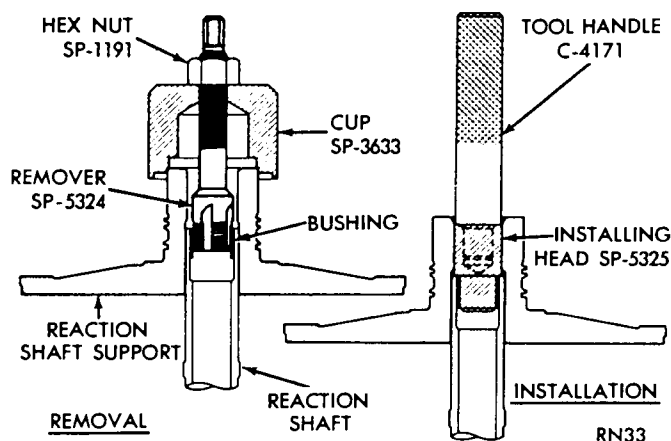

Fig. 12—Replace Reaction Shaft Bushing (A-904T and A-999)
(1) Assemble the remover Tool SP-5324, cup Tool SP-3633, and hex-nut Tool SP-1191 (Fig. 12).
(2) With cup held firmly against reaction shaft, thread remover into bushing as far as possible by hand.
(3) Using a wrench, screw remover into bushing 3 to 4 additional turns to firmly engage threads in the bushing.
(4) Turn hex nut down against cup to pull bushing from reaction shaft. Thoroughly clean reaction shaft to remove chips made by remover threads.
(5) Lightly grip bushing in a vise or with pliers and back tool out of the bushing. Be careful not to damage threads on bushing remover.
(6) Slide a new bushing on installing head Tool SP-5325, and start them in the bore of reaction shaft (Fig. 12).
(7) Support reaction shaft upright on a clean,